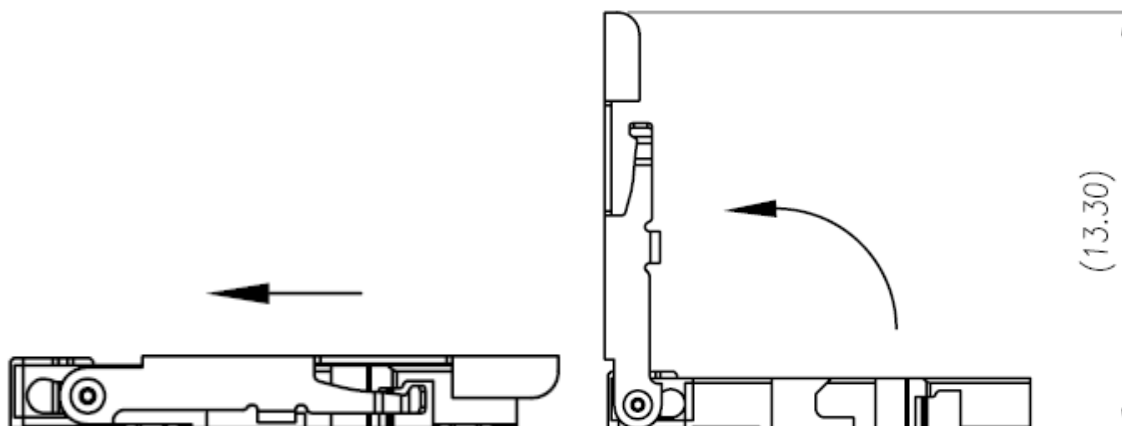
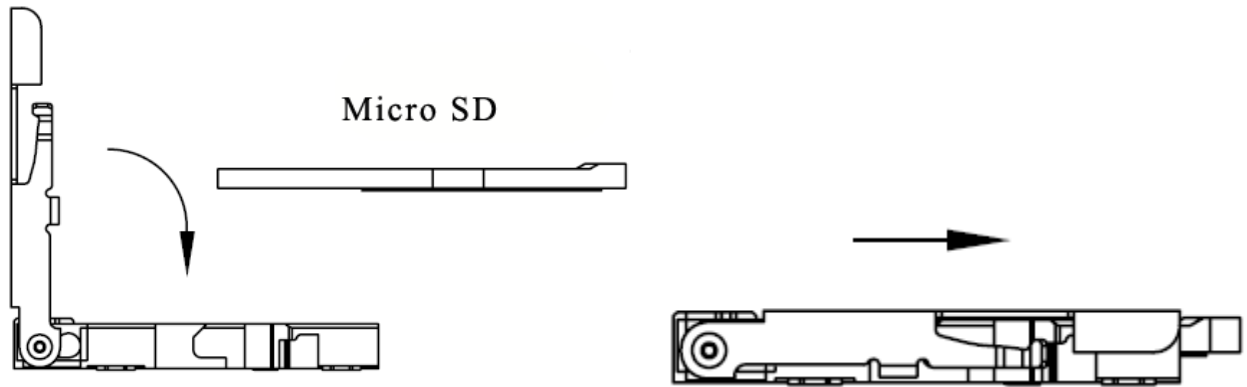

Figure 2-3 Micro SD Card installation illustration 1
Figure 2-4 Micro SD Card installation illustration 2
Step 1 Find the Micro SD Card slot in figure 2-3, open the Micro SD Card slot according to the direction shown in figure 2-4.
Step 3 According to the direction shown in figure 2-4, close the Micro SD card slot and keep it locked.